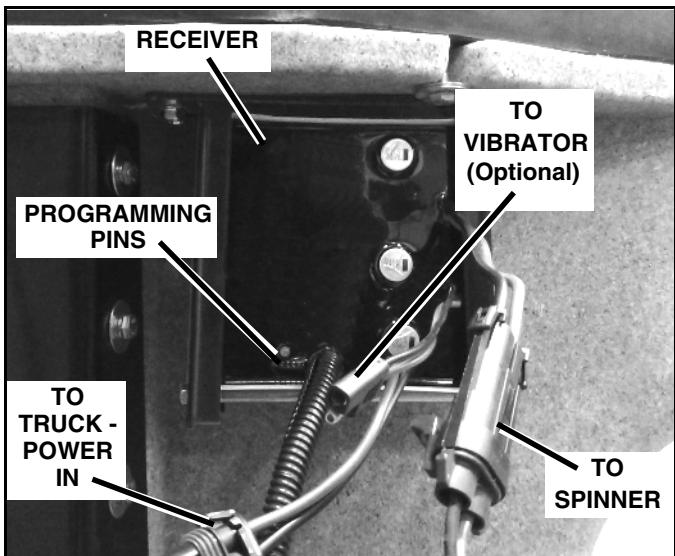

Figure 1-8
3. Secure the receiver by driving (2) 5/16" self-drilling screws thru the holes in the bracket and into the hoper.
4. Slide the receiver into the bracket with the 6-Pin in circuit programming pins located on the bottom. Secure the receiver with (1) 1/4" x 6" hex head cap screw and (1) 1/4" lock nut (See Figure 1-8).
5. Plug the spreader spinner motor harness and vibrator harness (optional) into the mating plugs on the receiver (See Figure 1-8).